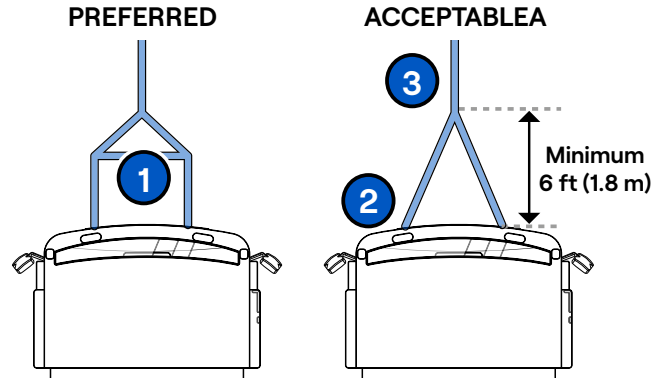

Figure 24 - Recovery options
- Use double chains or ropes to distribute the load evenly between both hitches (see either recovery option in **Figure 24**).
- Use a spreader or stabilizer bar to distribute the load between the two hooks (**Figure 24 no. 1**), or